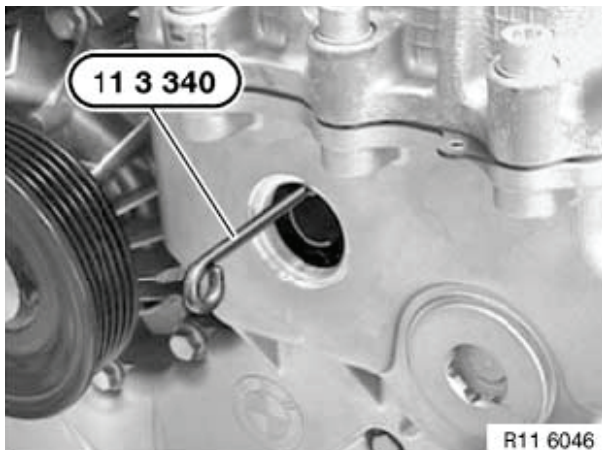

Figure 5-94
10. While holding the exhaust camshaft rotated, secure the tensioner in place using special tool OEM No. 11 3 340 (**Figure 5-94**).